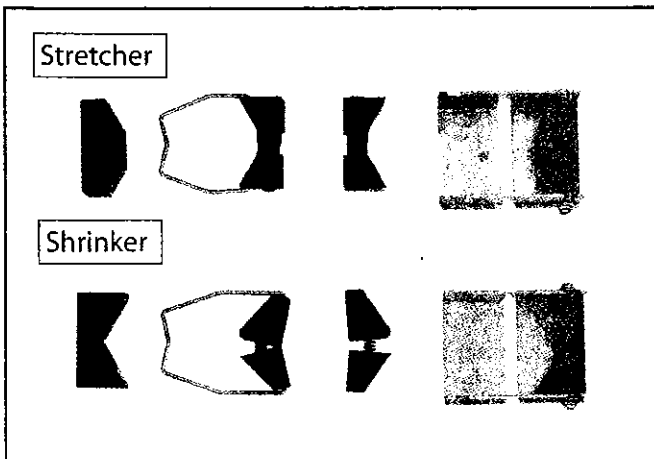

Figure 3. Die and jaw assembly order.
- Lay out the die components as shown in **Figure 3**.